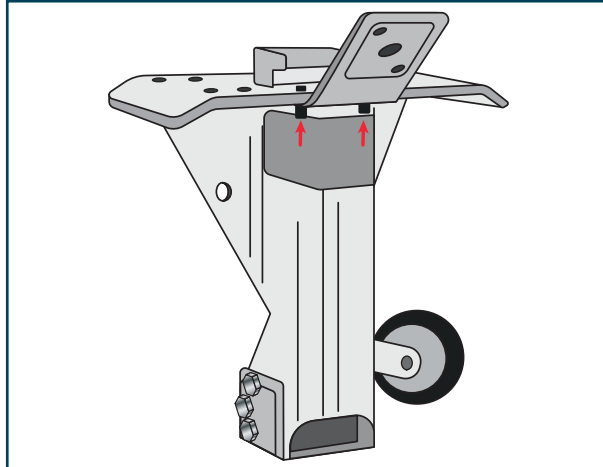

Figure 6.15
- Rotate handle to this position (Figure 6.15) and raise trailer off ball. Coupler will return to load position automatically.
- Install safety pin and clip. (Figure 6.15)